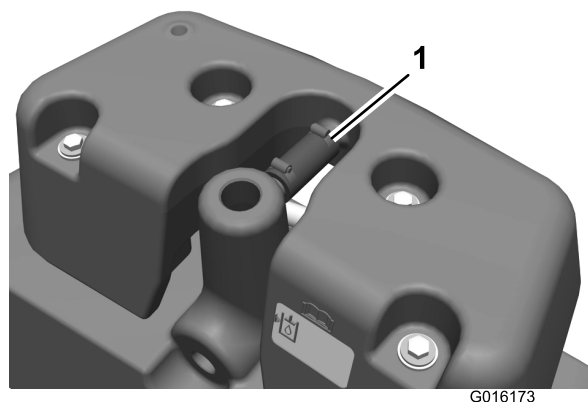

Figure 2
8. Loosen the worm-drive clamps and remove the overflow hose (Figure 2).
2. Indicator arrow on nut (2) hydraulic tank here
24. Secure the free end of the overflow hose to the tube on the leak detector tank with a worm-drive clamp (Figure 2).